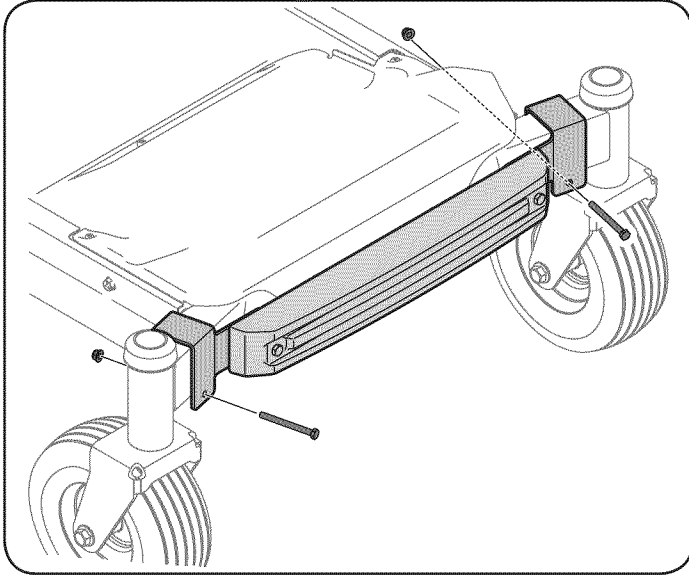

Figure 27
2. Attach the weight bar assembly to the front axle with a 3-1/4" (710-3056) screw and (712-04063) flange nut from hardware pack 689-00325 on the left side. Repeat on the right side. Do not fully tighten at this time. See Figure 27.